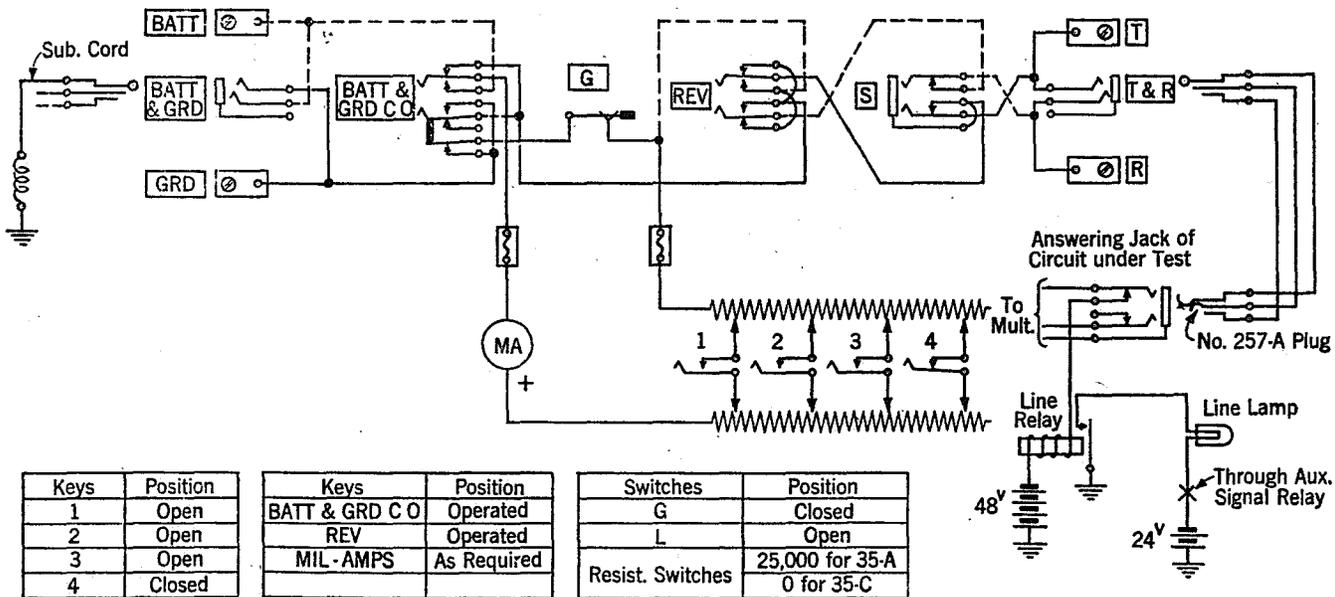

Fig. 2
- 3.08 Arrange the test set keys and switches as shown in Fig. 2 and connect an answering cord to the TEST-BATT & GRD jack.